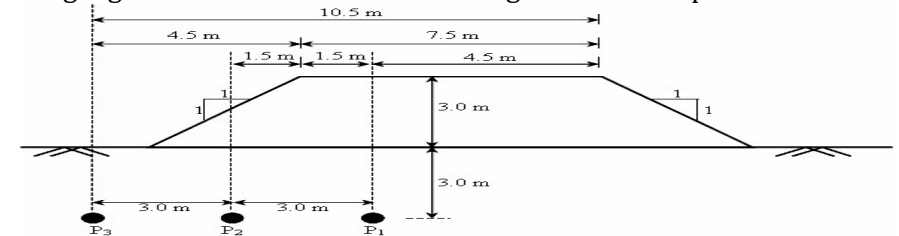
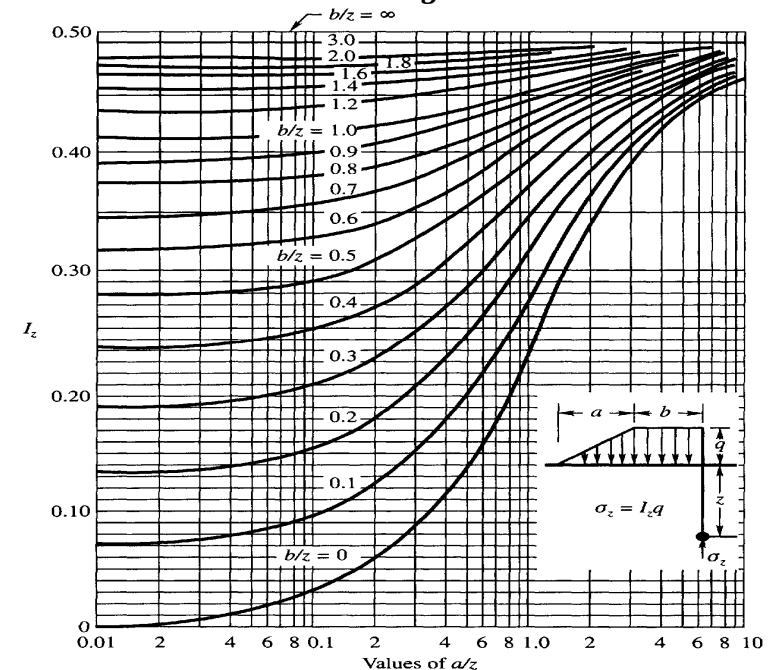

Figure 7
Figure 8
- (b) A 3 m high embankment is to be constructed (Figure 7). If the unit weight of the soil used in the embankment is 19.0 kN/m^3 , calculate the vertical stress due to the embankment loading at points P_1 , P_2 and P_3 using Figure 8 for influence co-efficient given with the problem.